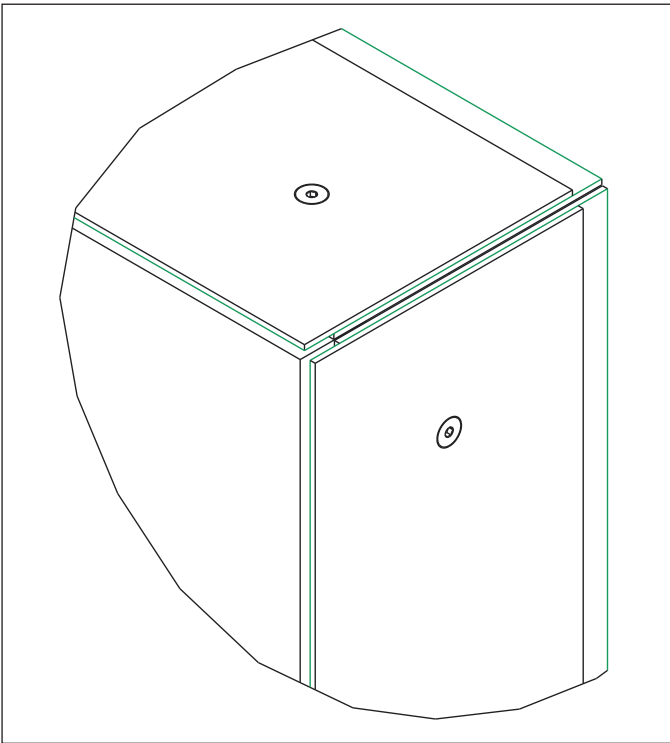

Figure 3: Adjust Border Spacer
5. Adjust the border spacer back to the wall by 1/2" (if necessary) to fill any gaps created while adjusting the display with shims and jacking hardware. Refer to **Figure 3**.